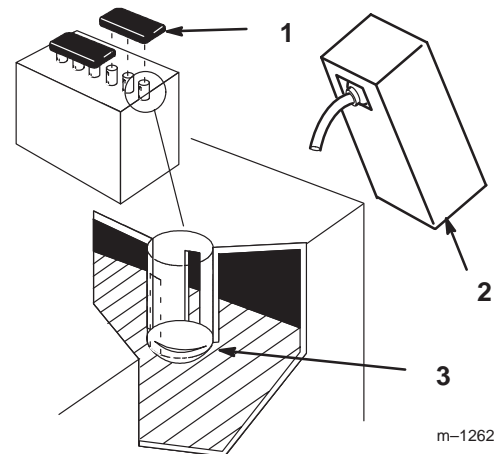

Figure 6
2. Remove filler caps from the battery. Slowly pour electrolyte into each cell until the electrolyte level is up to the lower part of the tube (Fig. 6).
- Slowly pour electrolyte into each cell until the level is once again up to the upper line on the battery case (Fig. 6) and install covers.